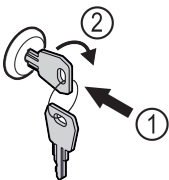

Fig. 157 Example illustration
- ▶ Insert key Fig. 157 (1).
- ▶ Turn key clockwise by 90° Fig. 157 (2).